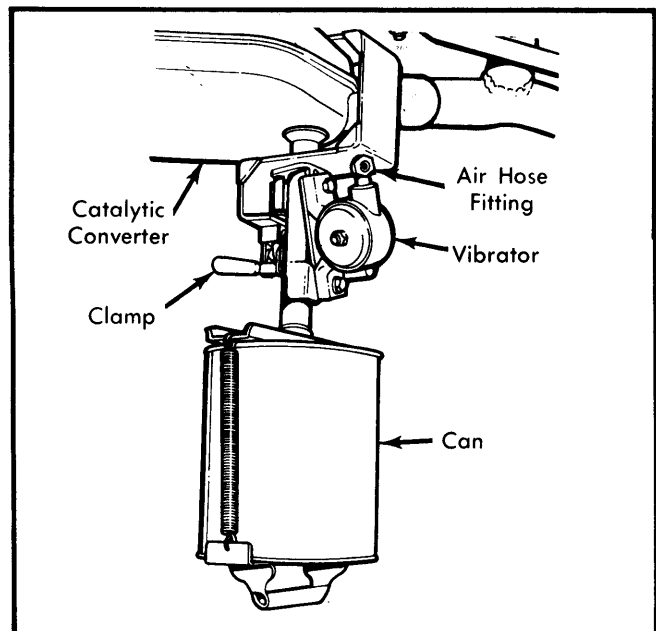

Fig. 5 Placement of Vibrator & Catalyst Container American Motors and General Motors Vehicles Only
3) Clamp on vibrator and catalyst receptacle as shown in Fig. 5. Disconnect air supply from vacuum aspirator and attach it to vibrator unit.